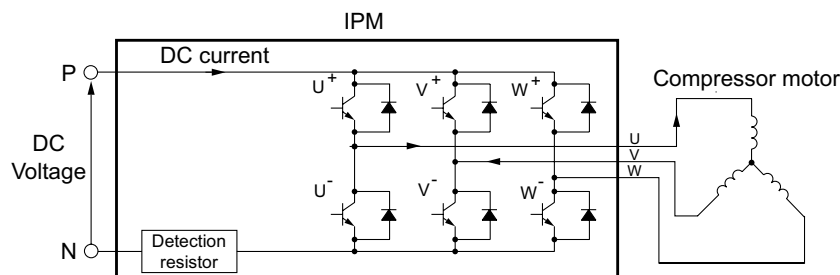

Fig. 6-6
(1) Turns on the power module's U+ and V- transistors so the current flows to the motor windings as shown in Fig. 6-6.
(2) Varies the turn-ON time of the U+ transistor according to the DC voltage level and the start is controlled so the start current is approx. 10A .